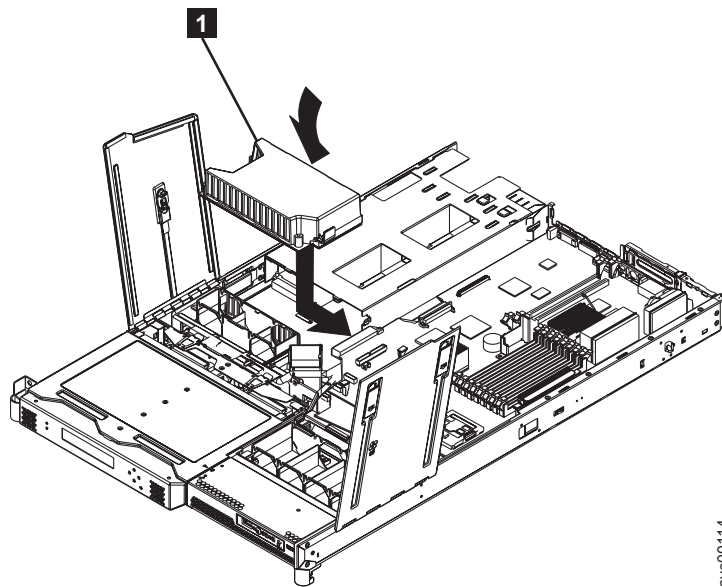

Figure 53. Replacing the power backplane
1. Lower the power backplane into position on the SAN Volume Controller 2145-8F2 and slide it to the right to connect it to the system board. See Figure 53.